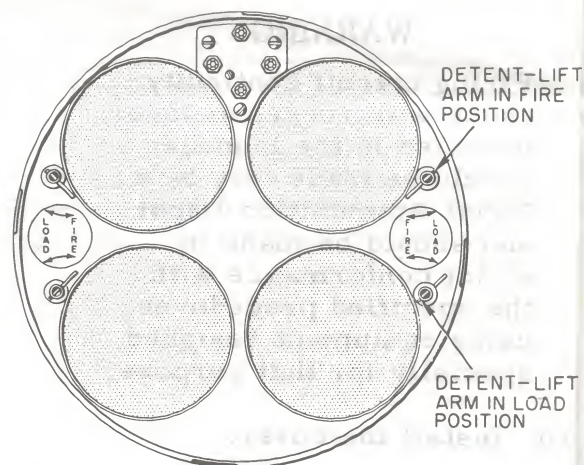

Figure 24 - Forward View of Launcher Showing Detent-Lift Arm in FIRE and LOAD Positions.
5. Then rotate all detent-lift arms to the LOAD position, figure 24.
7. Using the detent-lift tool, rotate the detent-lift arm, figure 24, to the FIRE position.
1. Rotate the detent-lift arm to the LOAD position, figure 24.
5. Rotate the detent-lift arm of the launcher to the FIRE position, Figure 24, and leave it in that position until ready to load the launcher again.